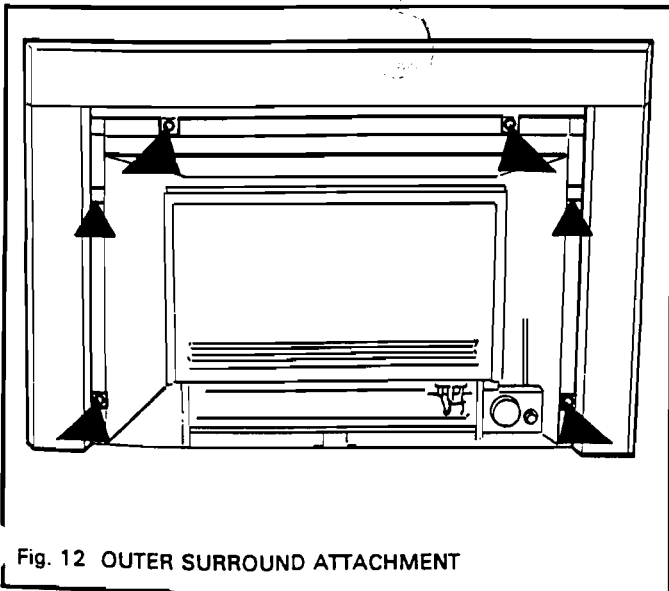

Fig. 12 OUTER SURROUND ATTACHMENT
2.2.4.2. Place the assembled outer surround in position against the heater. Secure to the heater front flanges with screws through the two brackets on the top cross piece and through two holes on the inner flanges of each of the surround sides (see fig. 12)